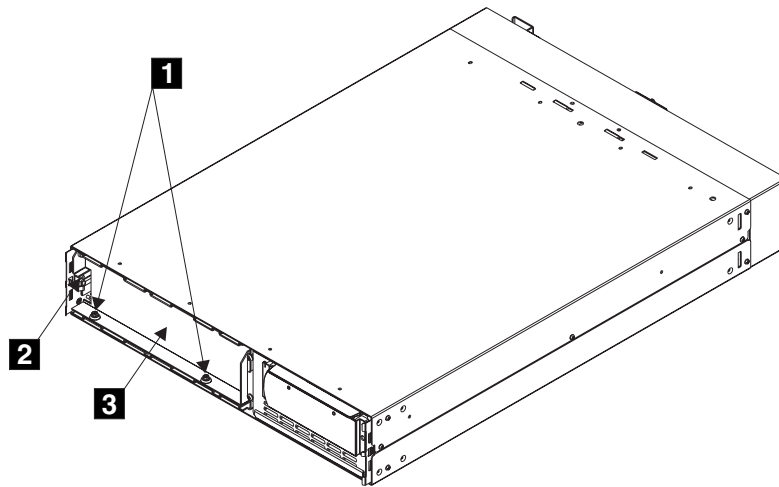

Figure 115. Removing the battery retaining bracket
3. Remove the battery retaining bracket (see Figure 115).